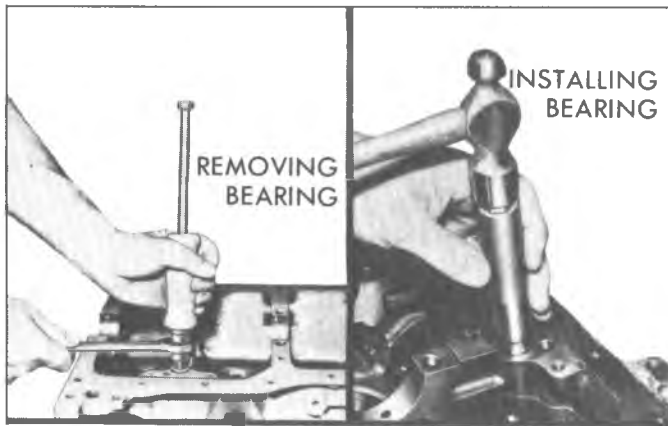

Fig. 72—Replacing Distributor Bearing
1. With oil pump and distributor removed install Tool J-9534 into bushing and using a slide hammer, remove the bushing (fig. 72).